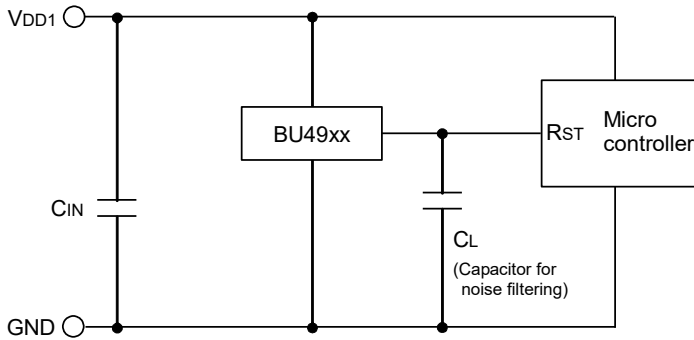

Fig. 16 CMOS Output type
CASE2: The power supply of the microcontroller (VDD1) is same as the power supply of the reset detection (VDD1). Use CMOS output type (BU43xx series) or Open Drain Output Type (BU48xx series). Attach a load resistance (RL) between the output and VDD1. (As shown Fig.16)